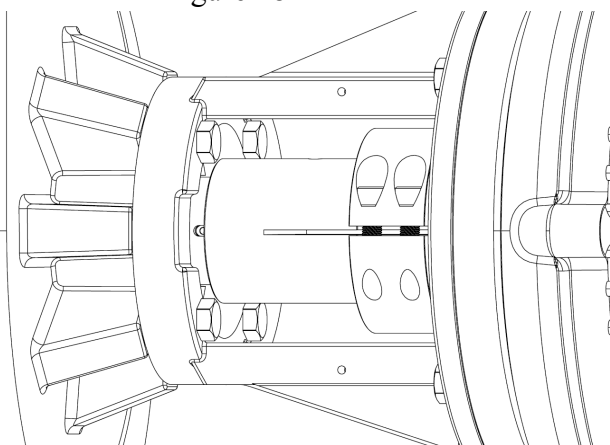

Figure 29
2. Slots in the double seal driver and rotating double seal fit over the driving pins on the stub shaft. See figure 29.